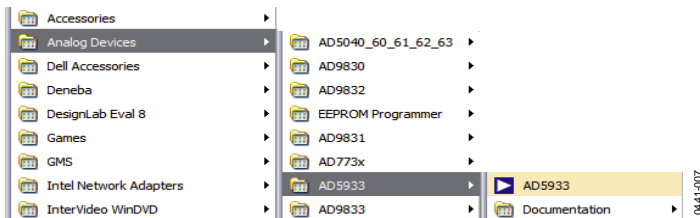

Figure 6. Opening the Evaluation Software
- Go to **Start/All Programs/Analog Devices/AD5933/AD5933** (see Figure 6).